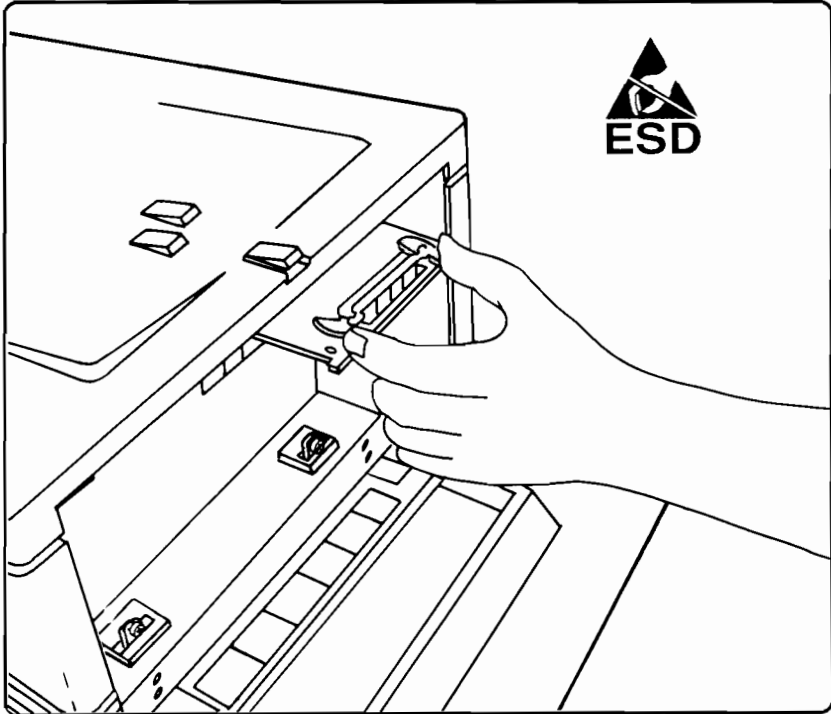

Figure 6-4. Accessory Memory PCA Removal
2. Squeeze the Memory PCA handles together and slide each PCA out of the printer (see Figure 6-4).